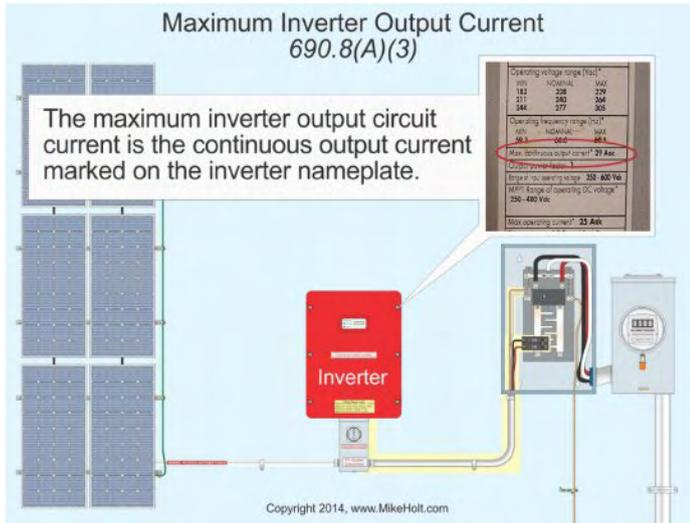

Figure 690–38
(3) Maximum Inverter Output Circuit Current. The maximum inverter output current is equal to the continuous output current marked on the inverter nameplate or installation manual. Figure 690–38